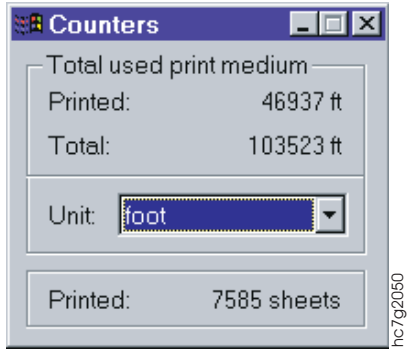

Figure 223. Counters Window
1. Open the **Counters** window, as shown in Figure 223.